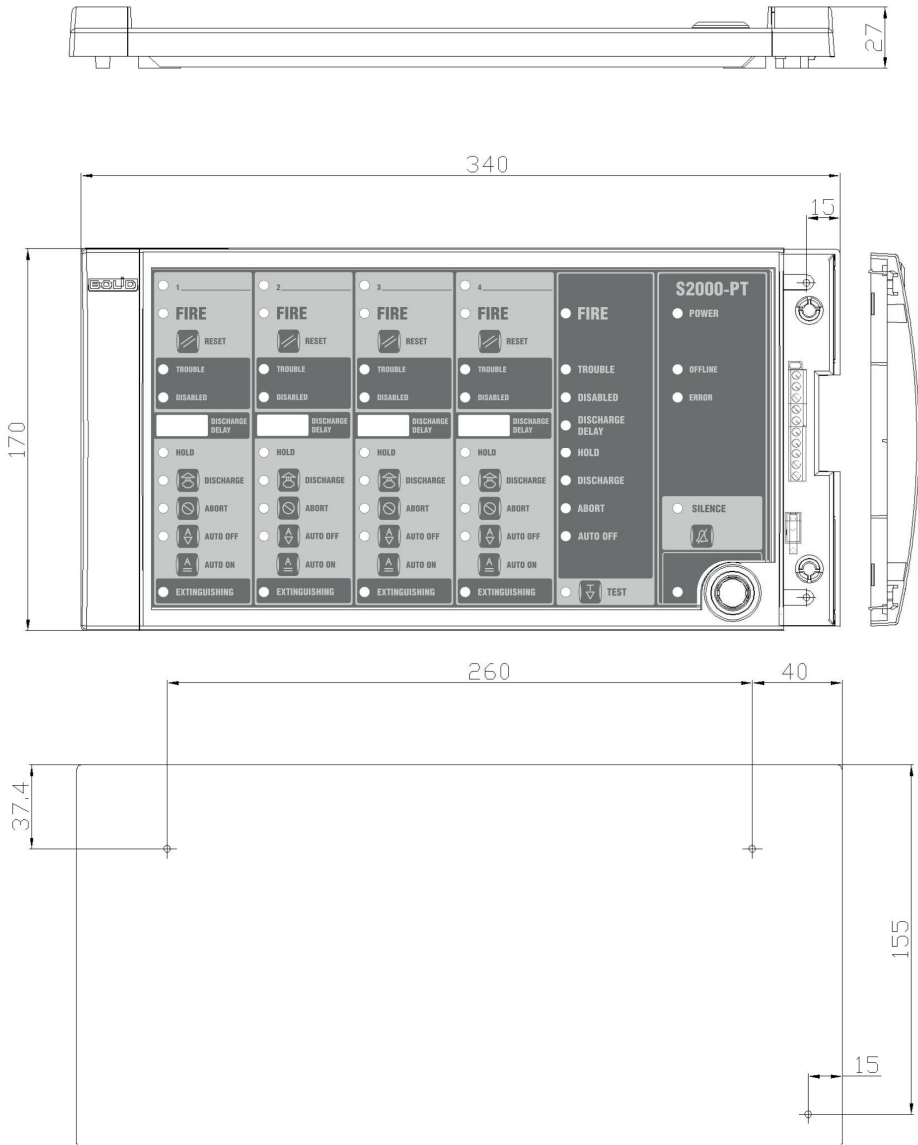

Figure 1. View, Overall and Mounting Dimensions of the S2000-PT
1.1.9 The module appears in Figure 1.
2.1.4 Mark three mounting points on the wall in accordance with Figure 1.
2.1.7 Hang the module on two woodscrews. Screw the remaining woodscrew into the lower mounting hole (see Figure 1) and fix the module on the wall.